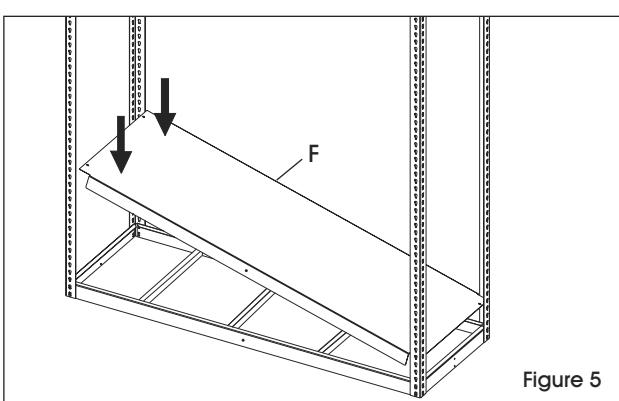

Figure 5
5. Lay the bottom steel shelf (F) on the shelf supports so that the front and back edges overlap the front/back supports. (See Figure 5)